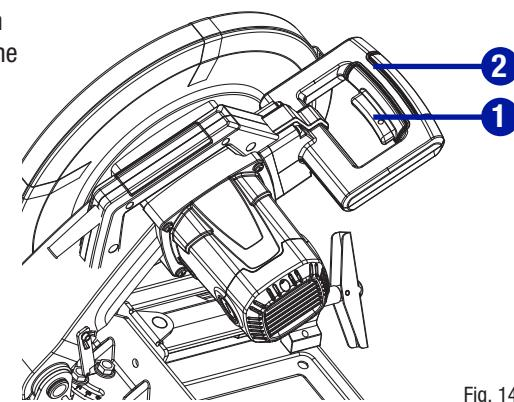

Fig. 14
**ON/OFF SWITCH (Fig. 14)**
- To turn the chop saw on, depress the ON/OFF switch (1) located in the "D" handle (2) portion of the machine arm.